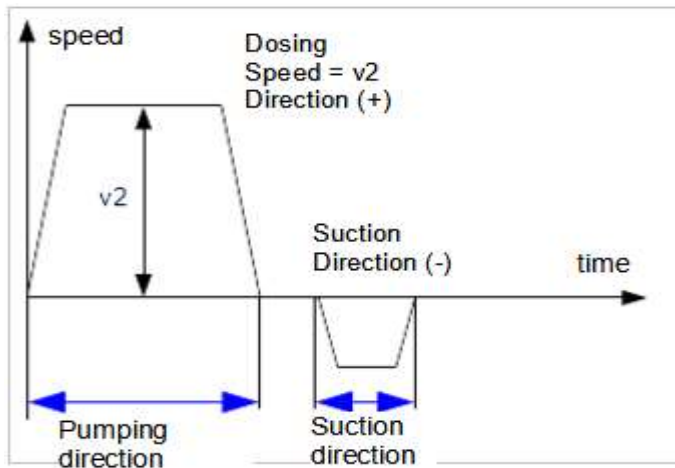

Fig 3. extra dose cycle 1[g]
Back panel – Fig.3
- Plug the power cord (230V) of the dispenser into socket No 2 (Fig.3)
- Connect the dosing actuation pedal or the plug connecting the turntable with the bottling unit to socket No 6 (Fig.3) at the back of the bottling unit and the other end of the cable to socket at the back of the table controller.(Fig.3)
- Place the limit switch under the dispenser and plug it into socket 4. (Fig.3)
- Plug the power cord (230V) of the turntable into socket NR 5 (Fig.3)
- Switch on the appliance using button 1 (Fig.3)